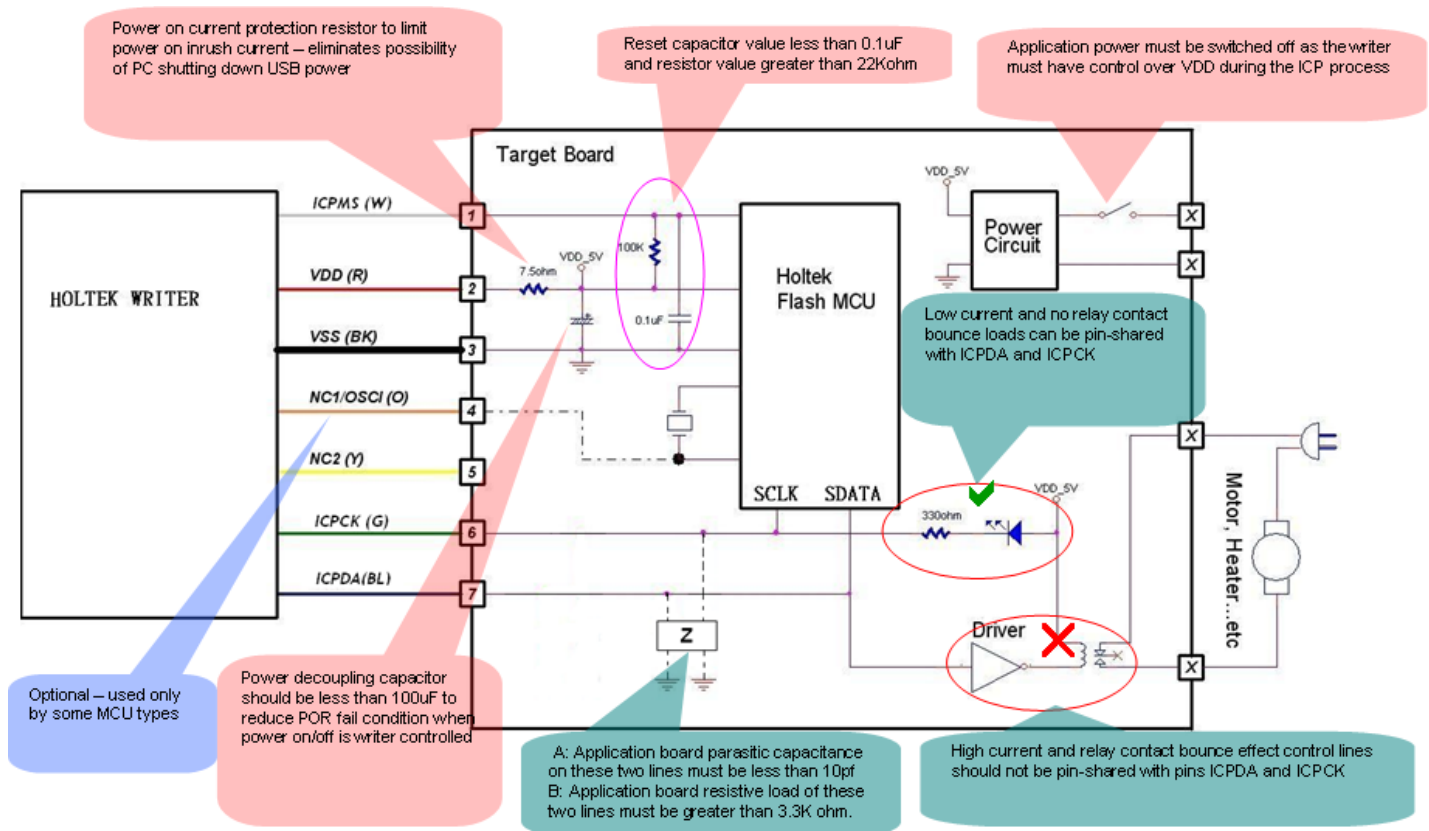

Fig. 12
2. The programming pin (ICPCK/ICPDA) of the ADC MCU may be pin-share with ADC input pin. On the Chapter.4 “ICP Programming Note” says, “the programming line capacitive load should be less than 10pF” , but ADC MCU sometimes needs capacitor (Ci) on AD input for filter, and it may affect the ICP/OCDS communication. We suggest connecting a resistor (Ri) in series like below figure.12 on your circuit to make the ICP/OCDS communication well.